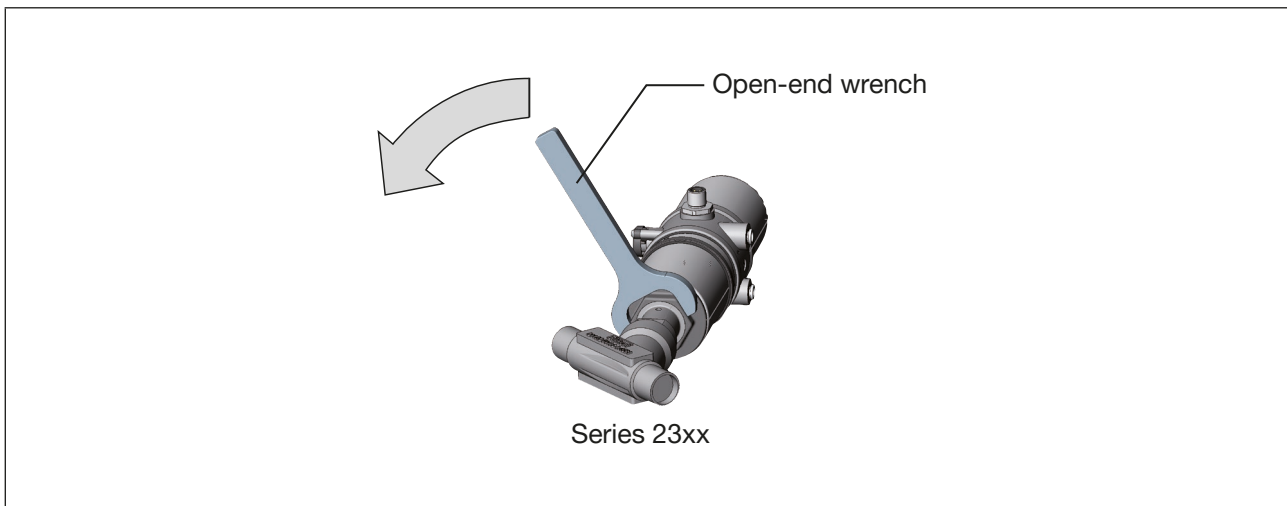

Figure 21: Rotating open-end wrench
▶ Rotate the actuator module counter-clockwise only (see “Figure 21”).